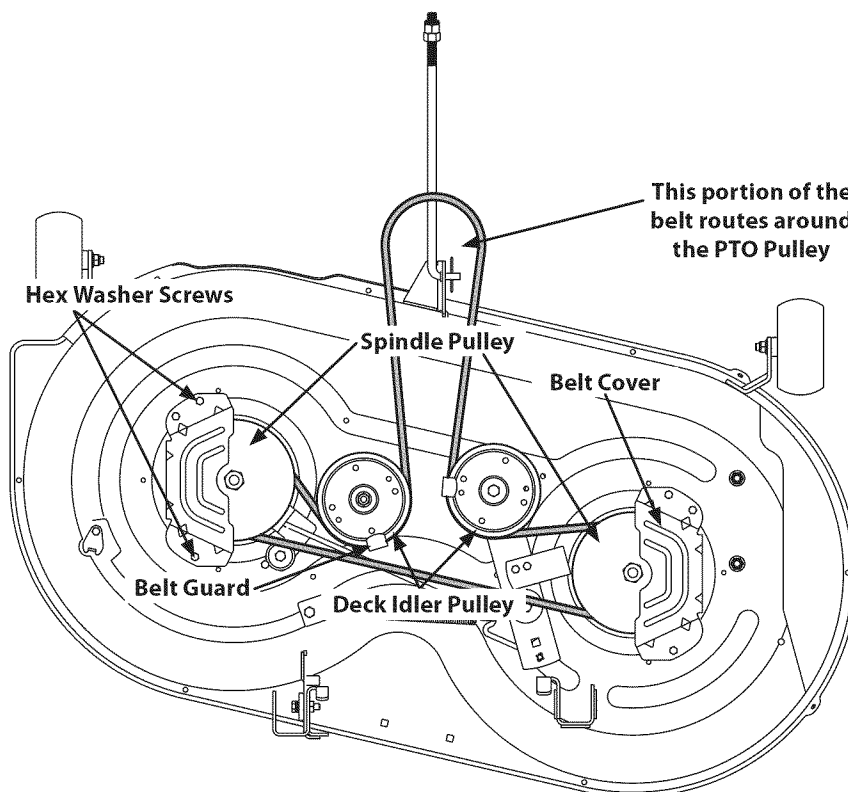

Figure 25
2. Remove the belt covers from the spindle pulleys by removing the hex screws that fasten the covers to the deck. See Fig. 25.
4. Carefully remove the deck belt from around the two spindle pulleys and the two deck idler pulleys. See Fig. 25.
5. To place the new belt, begin by routing the belt around the two outer spindle pulleys as shown in Fig. 25.
6. Then route the belt around the two deck idler pulleys as shown in Fig. 25.
9. Re-install the deck, making sure the belt remains routed around the pulleys as instructed. The complete belt routing is shown in Fig. 25.